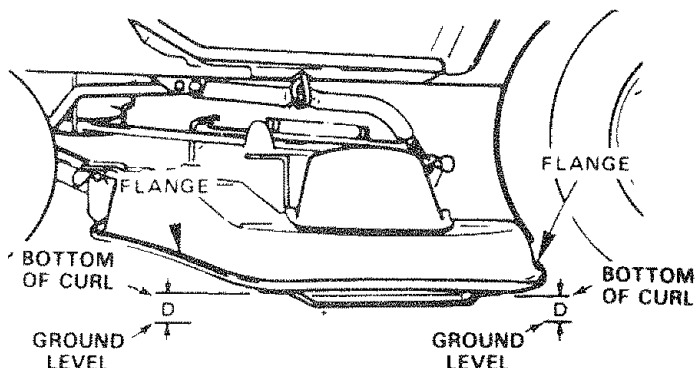

FIGURE 36
- a. To obtain the best cutting results, your mower housing should be adjusted so the front and rear flange distance "D" (Fig. 36) is 13 mm (1/2") lower in front when the mower is positioned in the highest cutting position.